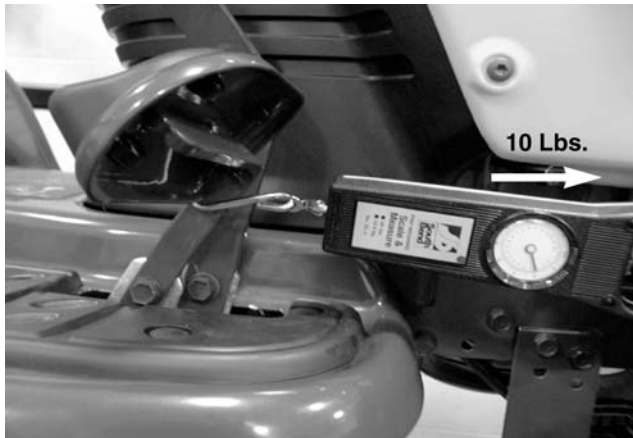

Figure 9-15
**IMPORTANT:** The AutoDrive pedal is properly adjusted when the hole found in the double-idler bracket has approximately 1-3/8" of travel with ten pounds of pressure applied to the AutoDrive pedal. See Figures 9-15 and 9-16.